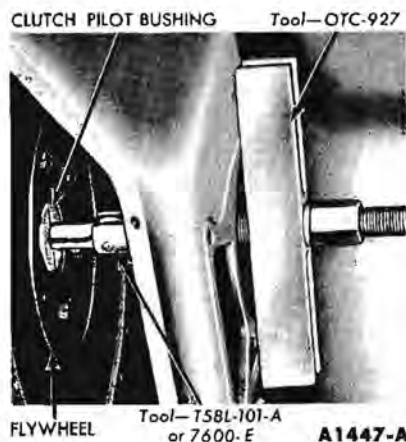

FIG. 44—Typical Clutch Pilot Bushing Removal
2. Using tools T59L-100-B and T58L-101-A, remove the pilot bushing (Fig. 44).